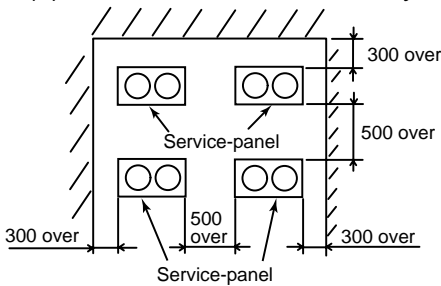

Fig 3
(2) Relation of unit when many set up unit. (Fig 3,4,5)